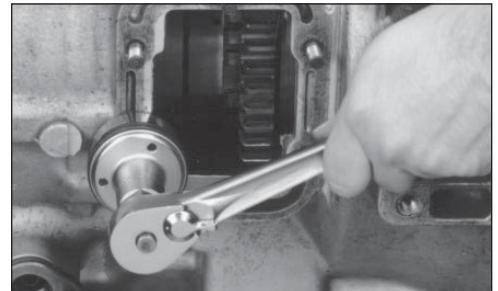

Figure 8
6. Install the proper studs (furnished with PTO) in the PTO aperture pad using a stud driver. Studs should be threaded into the transmission holes until the stud shank is even with transmission mounting surface. **DO NOT** install studs with shank below the aperture surface. Install studs with hand tools. **DO NOT** use power tools to install studs. (**Fig. 8**).